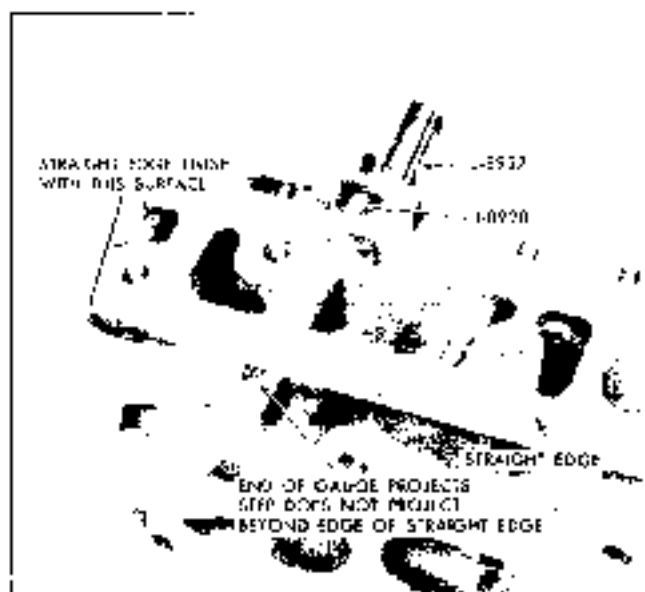

Fig. 6-86 Checking Val. Height
When installing new head, transfer all serviceable parts to new head, using new seals on intake and exhaust manifold valve stems, and new exhaust manifold gasket. Install new intake manifold gasket plastic retainers. Clamp straight edge into position as shown in Fig. 6-86 and check rocker arm position with valve train gauge J 8929.
15. With valve seated, slowly drive rocker arm stud into cylinder head until gauge projects about midway between end of gauge and stop with respect to straightedge (Fig. 6-86).